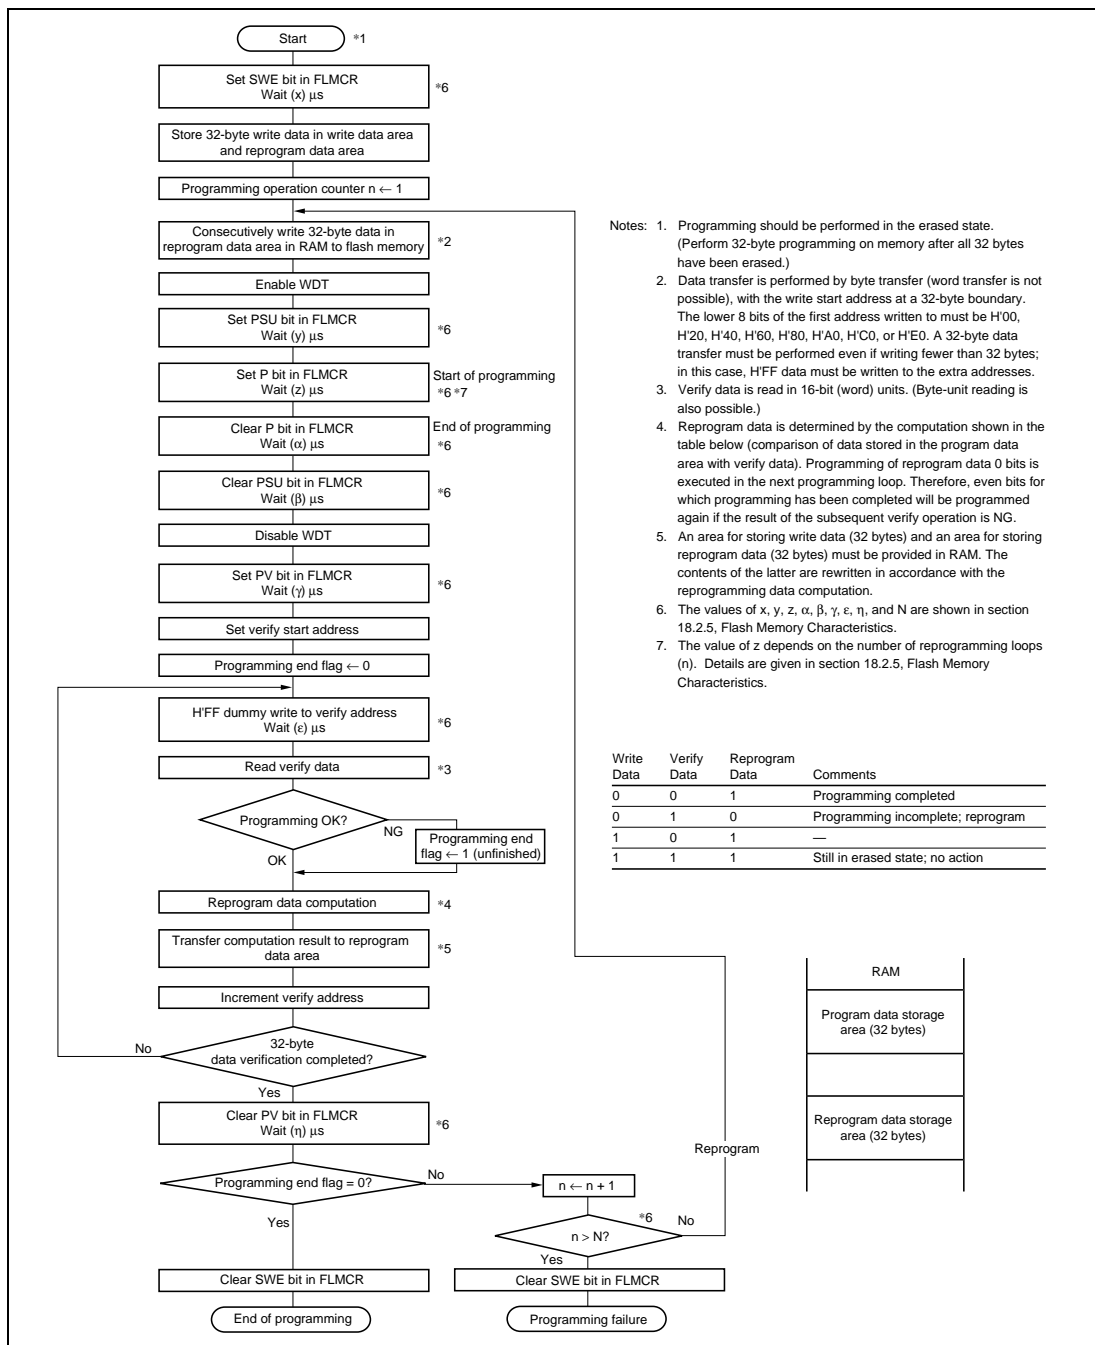

Figure 15.11 Program/Program-Verify Flowchart
Follow the procedure shown in the program/program-verify flowchart in figure 15.11 to write data or programs to flash memory. Performing program operations according to this flowchart will enable data or programs to be written to flash memory without subjecting the device to voltage stress or sacrificing program data reliability. Programming should be carried out 32 bytes at a time.
Clear the P bit in FLMCR, then wait for at least (α) μs before clearing the PSU bit to exit program mode. After exiting program mode, the watchdog timer setting is also cleared. Then the operating mode is switched to program-verify mode by setting the PV bit in FLMCR. Before reading in program-verify mode, a dummy write of H'FF data should be made to the addresses to be read. The dummy write should be executed after the elapse of (γ) μs or more. When the flash memory is read in this state (verify data is read in 16-bit units), the data at the latched address is read. Wait at least (ϵ) μs after the dummy write before performing this read operation. Next, the originally written data is compared with the verify data, and reprogram data is computed (see figure 15.11) and transferred to RAM. After verification of 32 bytes of data has been completed, exit program-verify mode, wait for at least (η) μs , then determine whether 32-byte programming has finished. If reprogramming is necessary, set program mode again, and repeat the program/program-verify sequence as before. However, ensure that the program/program-verify sequence is not repeated more than (N) times on the same bits.